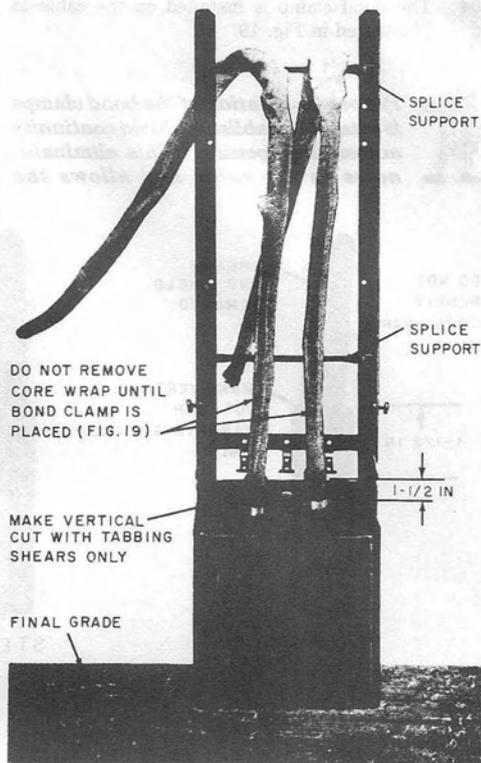

Fig. 18—Sheath Removed—Cut Ends
6.03 Score the circumference of the cable at the 1/4-inch marker. Remove the sheath and shield from the cable (Fig. 18). At loop through locations, remove the sheath and shield from between the 1/4-inch paper tape markers. **DO NOT REMOVE THE CORE WRAPPER.**